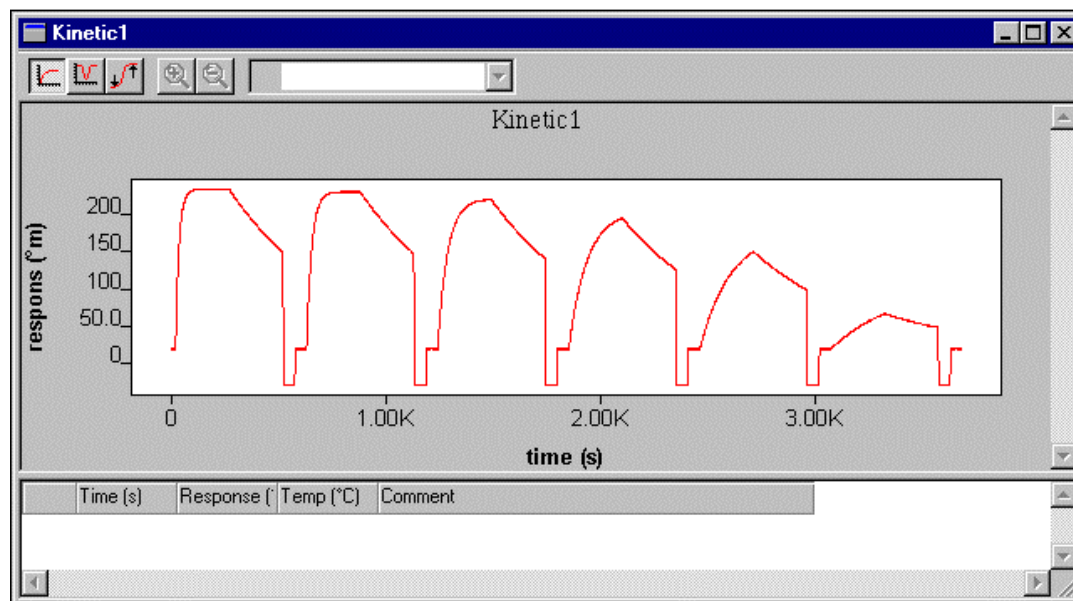

Figure 2.4: data file window of kinteic1.ibo
- In the Select File(s) window open the file kinetic1.ibo in SPR\data directory. The kinetic1.ibo file will appear on the screen. The file contains a graph of six interaction plots/curves (see figure 2.4).